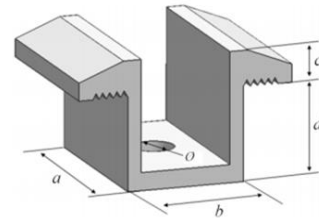
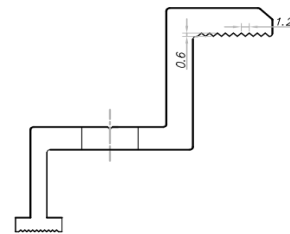

Fig.6 Schematic diagram of the mid clamp
Fig. 7 Schematic cross section of the fringe clamp
- ① Place the module on the two supporting rails (not provided by Astronergy) which should be made with stainless material and treated with an anti-corrosion process (e.g. hot dipped galvanizing). Each PV module needs at least four clamps to be fixed. The module clamps should not come into contact with the glass and should not deform the frame, otherwise they may cause module damage.
- ② Be sure to avoid shadowing effects from the module clamps. Weep holes on the module frame must not be closed or obscured by the clamps. The clamp must have at least 8mm but no more than 11mm overlap with the frame of the module (The clamp section can be changed under the premise of ensuring reliable installation).
- ③ The top surface of the rail contacted with module frame should be equipped with grooves compatible with an M8 bolt.
- ④ If the grooves are not provided, holes of a suitable diameter may need to be drilled to allow bolts attaching to the rail at the same locations as mentioned above.
- ⑤ Ensure that the mounting sequence of each clamp is in the order of flat washer, spring washer and nut.
- ⑥ There are two types of clamps, the mid clamp shown in Fig. 6 and the fringe clamp shown in Fig. 7 and Fig. 8. The mid clamp has dimensions of  $a \geq 40$  mm,  $b \geq 26$  mm,  $c \geq 5$  mm,  $d \geq 28$  mm,  $\varnothing = 9$  mm. For module of 182/210mm-wafer, the size of mid and fringe clamp must meet  $a \geq 60$  mm. The tightening torque is suggested to be 17~23Nm for Class 8.8 screw and bolts.
- ⑦ To prevent modules from coming off the fixed device after installation, it is suggested to choose fringe and mid clamps and make contact with the A side of the frame with groove patterns. Suggest to have 9 patterns with a space between 2 adjacent patterns of 1.2mm and a depth of 0.6mm, as shown in figure 7.